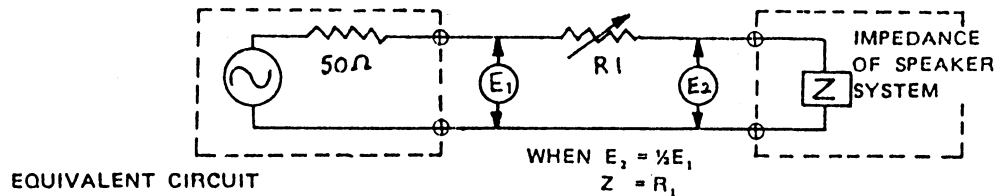

Figure 10
(4) In testing other impedance network, the resonant may not occur in low frequency. But in approaching the resonant frequency, there are still increasing in voltage, then the impedance can be tested as following:
- a. Series connected a R_1 to the network under test as in Figure 10.